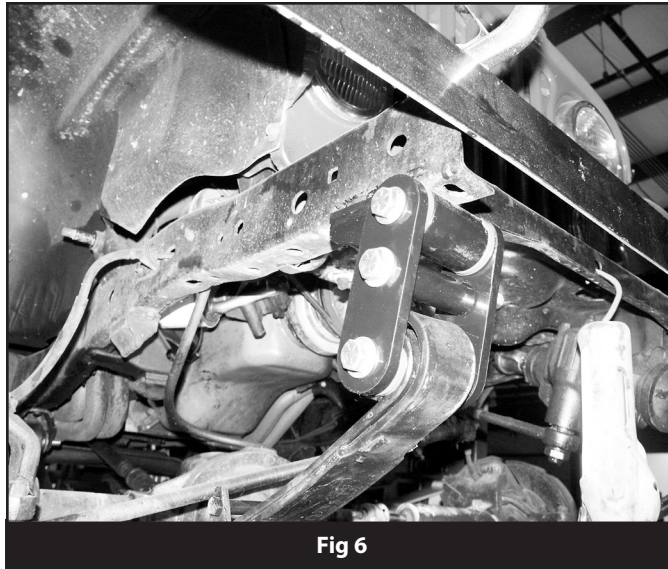

Fig 6
20. Follow manufactures instructions for installing shackles. Leave hardware loose. (Fig 6)